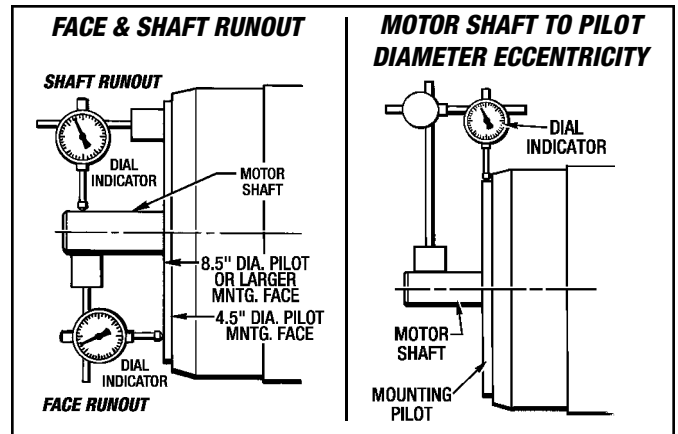

Figure 3.1 - Verifying Motor Specifications
The Motor Manufacturer's Specifications must be verified first to ensure the Motor Brake Oil Seal Reliability. (1) Motor Shaft Runout, (2) Mounting Face Runout and (3) Motor Shaft to Pilot Diameter Eccentricity need to be checked with a Dial Indicator as shown in *Figure 3.1*.